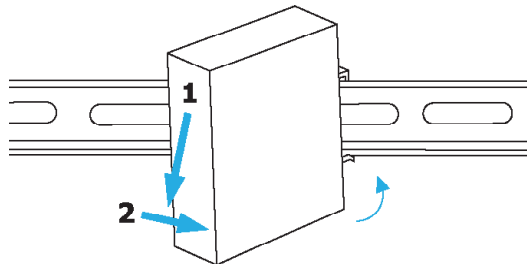

Figure 2
2. Mount the **USB 2.0 Galvanic Isolator** by inserting the **Mounting Plate** onto the **DIN Rail** at an angle, starting from the top then push against the **DIN Rail**. (Figure 2)